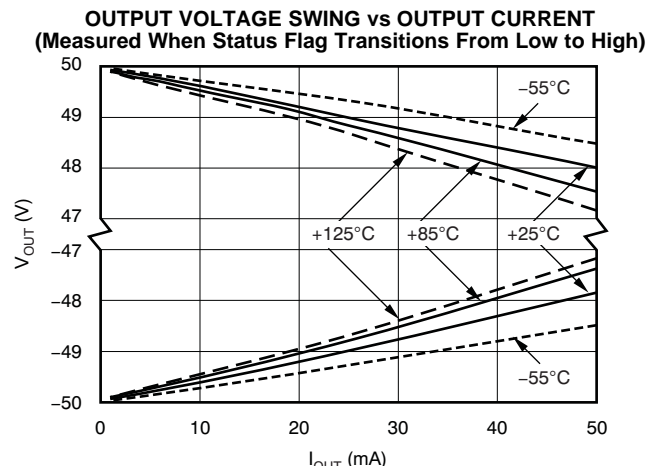
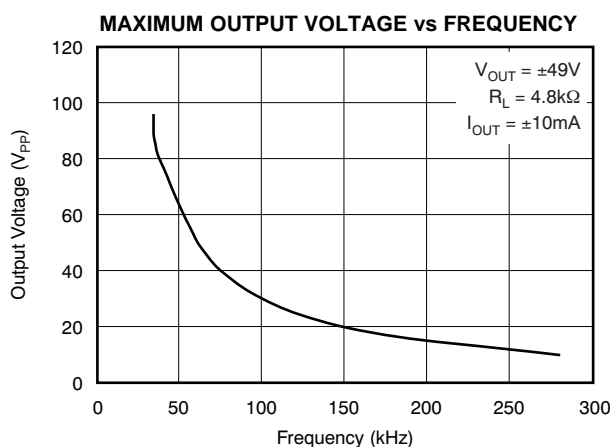
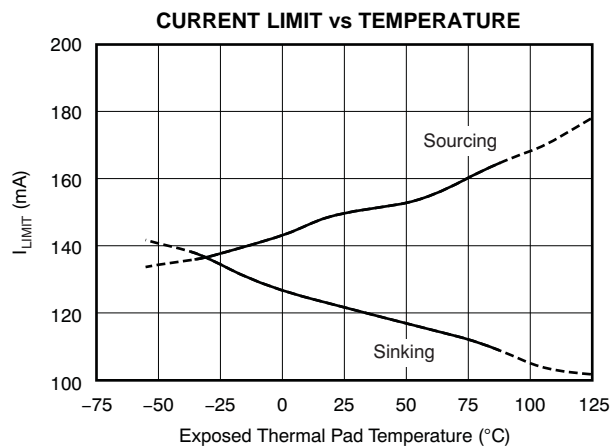

Figure 11.
Figure 12.
Figure 24.
(5) See Typical Characteristic curves.(6) See typical characteristic curve, *Maximum Output Voltage vs Frequency* (Figure 12).(7) See the Applications Information section, Settling Time.(8) Supplies reduced to allow closer swing to rails due to test equipment limitations. See typical characteristic curve *Total Harmonic Distortion + Noise vs Temperature* (Figure 30 and Figure 31) for additional power levels.(9) See typical characteristic curve, *Output Voltage Swing vs Output Current* (Figure 11).(10) Measured using low-frequency (<10Hz)  $\pm 49V$  square wave. See typical characteristic curve, *Current Limit vs Temperature* (Figure 24).(11) Measured using Figure 1.(12) 100k $\Omega$  pull-up resistor to (V+). E/D common to (V-). Status flag indicates an over temperature or over-current condition.(13) See Typical Characteristic curves for current limit behavior.